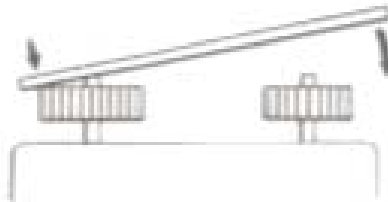
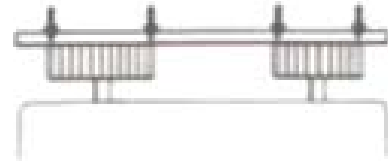

Figure 11
Figure 12
18.1.1. Sprocket alignment and parallelism of the shafts is very important. Proper alignment helps to equalize the load across the entire belt width, thereby reducing wear and extending belt life. The sketches below show how to align a Synchronous drive properly. PLACE A STRAIGHTEDGE against the outside edge of the sprockets as shown in Figure 11; Figure 12 shows the four points where the straightedge should touch the sprockets.
- 18.4.1.1. Install the belt as per Steps 1 and 2 of the General Method. Measure the span length (in inches) as illustrated in Figure 11.
- 18.4.1.2. From Figure 11 determine the deflection height required for the drive. The deflection height is always $1/64$ " per inch of span length. For example, a 32" span length requires a deflection of $32/64$ " or $1/2$ ". To measure the deflection height place a straightedge from sprocket to sprocket on top of the belt or wrap a string or steel tape around the sprockets on top of the belt. This will serve as a reference line to measure deflection inches.